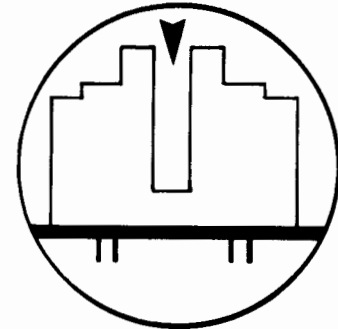

Figure 4-32. Paper-Out Sensor Cleaning
- h. Clean the paper-out sensor by wiping it with a dry cloth as shown in figure 4-32.